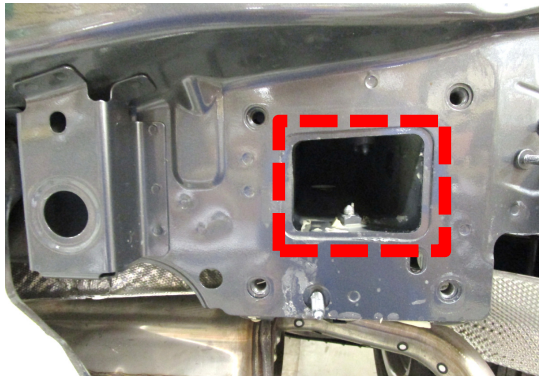
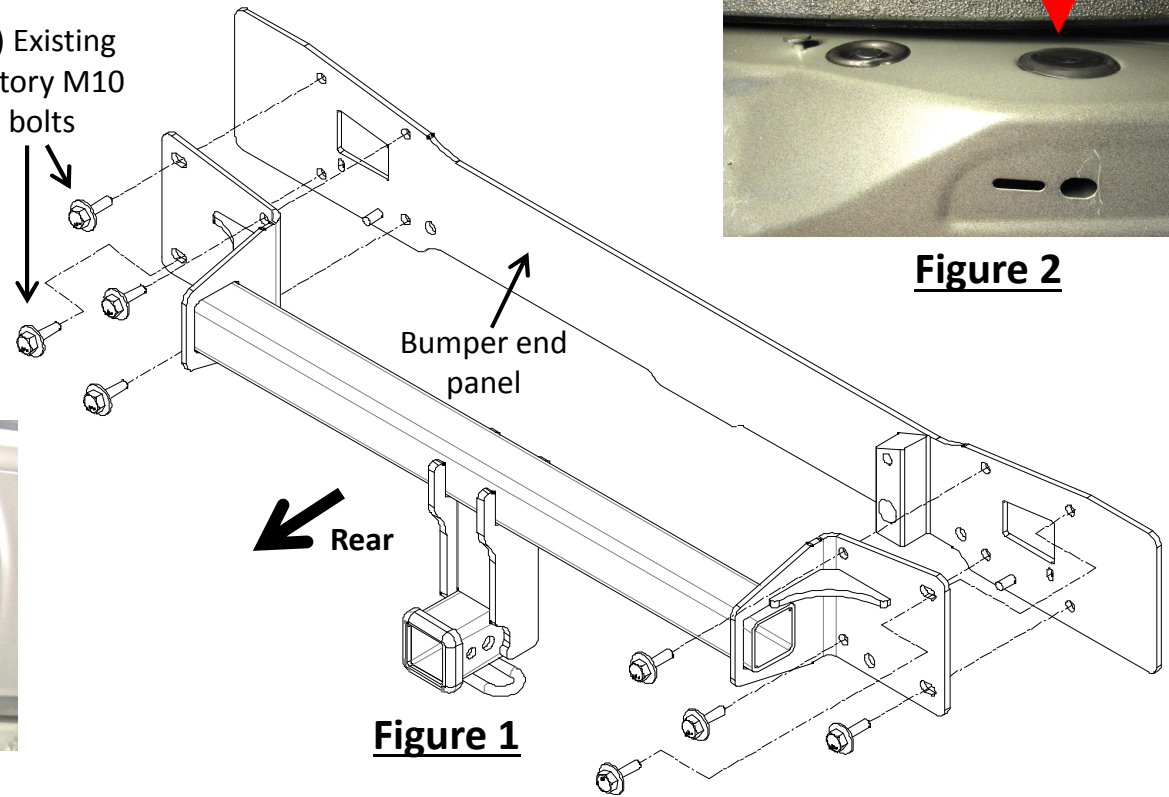

Figure 3
Figure 1
2. **Remove bumper beam** – Using 16 mm socket, remove (8) M10 factory bolts from bumper beam and cross bar above bumper beam. Return bumper beam and cross bar to owner.
3. **Install hitch** – Use silicone sealant to seal around the opening on the end panel both sides, see **Figure 3**. Raise the hitch into position and loosely install (8) existing factory M10 bolts to the hitch, see **Figure 1**.